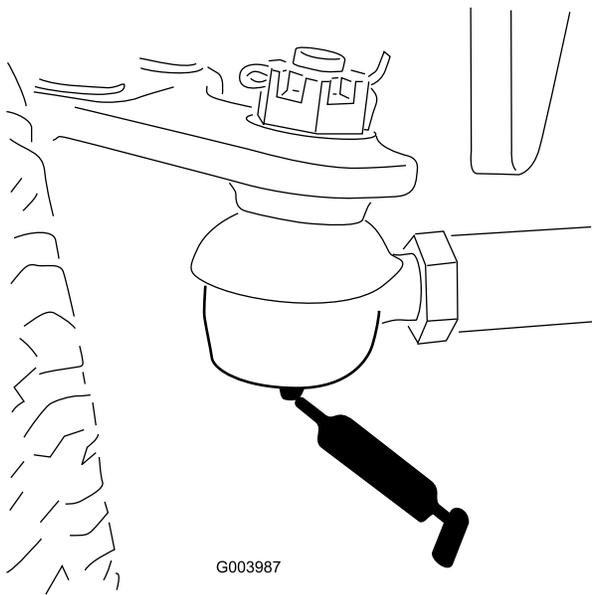

Figure 74
- Rear axle tie rod (2) (Figure 74)